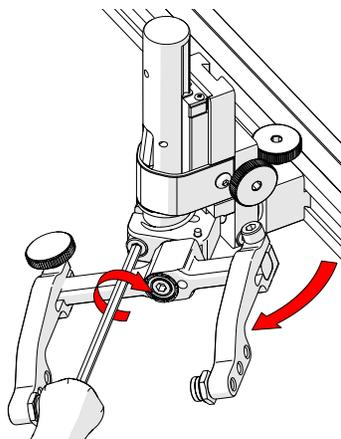

Fig. 85 - Rotate and tighten
3. Tighten the transverse adjustment screw (Fig. 85).